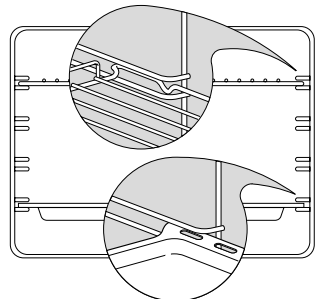

Fig. 28b Correct position of shelves and pan (models with side racks)
- **In models with side racks,** put in the shelves and trays. If you are not using the sliding shelf supports, then slide in the shelves and grill pan as shown in Fig 28b. Fit them between the metal runners, with the safety stop notch down and at the back.